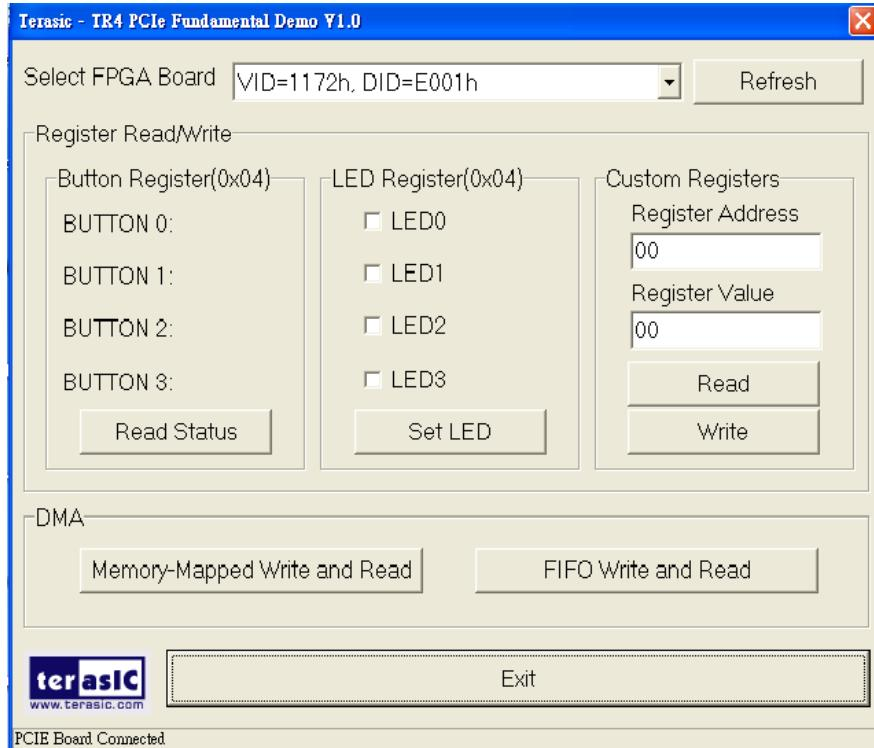

Figure 6-13 PCIe Fundamental Demo GUI
- Launch the demo program *PCIe\_Fundamental\_Demo.exe* shown in Figure 6-13.